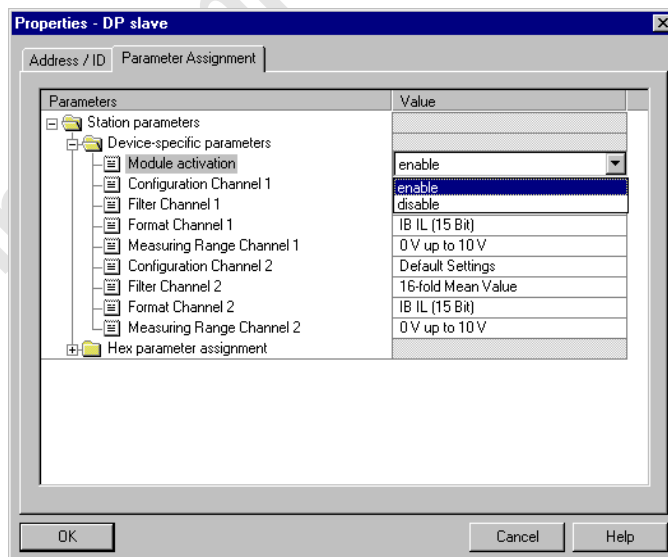

Figure 4-3 Activating/deactivating a terminal
The "Parameter Assignment" tab can be used to specify whether a terminal should be active or inactive, see Figure 4-3.
Depending on the terminal type, safety-related values (DO and AO) to be output in the event of an error can also be set at this point, for example. Furthermore, inputs (AI) can be parameterized. This is also carried out via the dialog box shown in Figure 4-3.